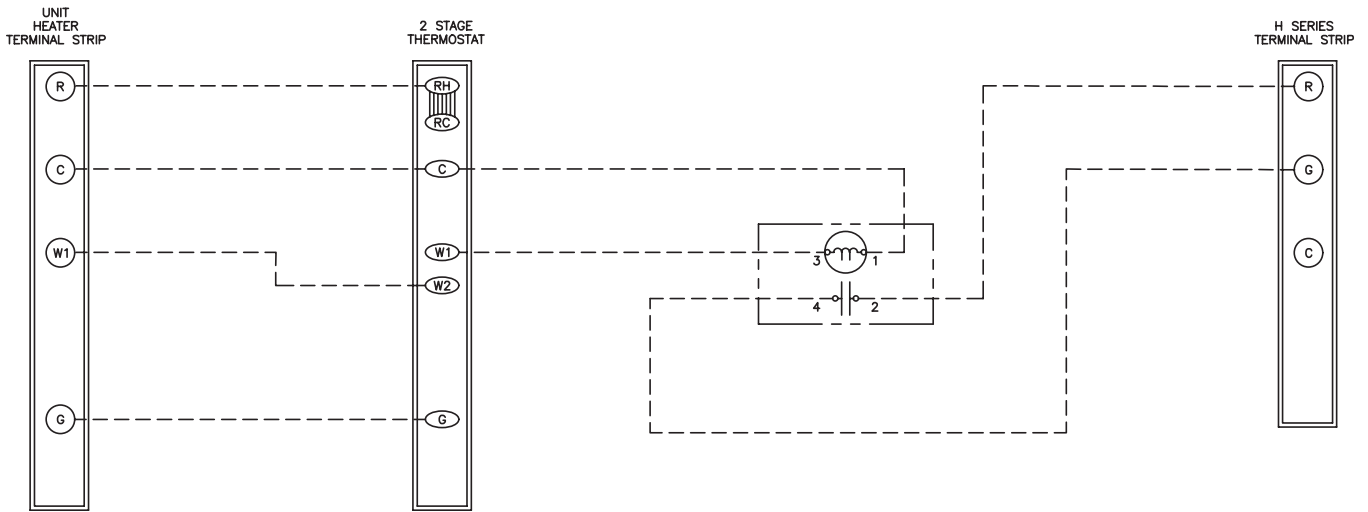

Figure 9. Heater and Destratification Fan Wiring Diagram
- If the installation features a heater and an H series Huracan™ destratification fan controlled by a single two-stage thermostat, ensure that the wiring is in accordance with the wiring diagram shown in Figure 9.